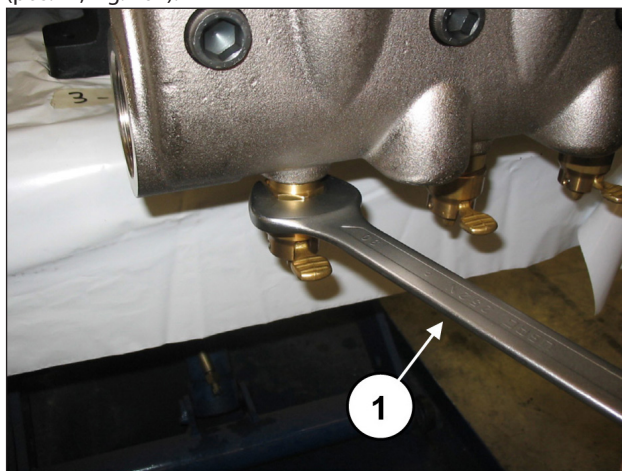

Fig. 107
Unscrew the valve opening device using a 30 mm wrench (pos. ①, Fig. 107).